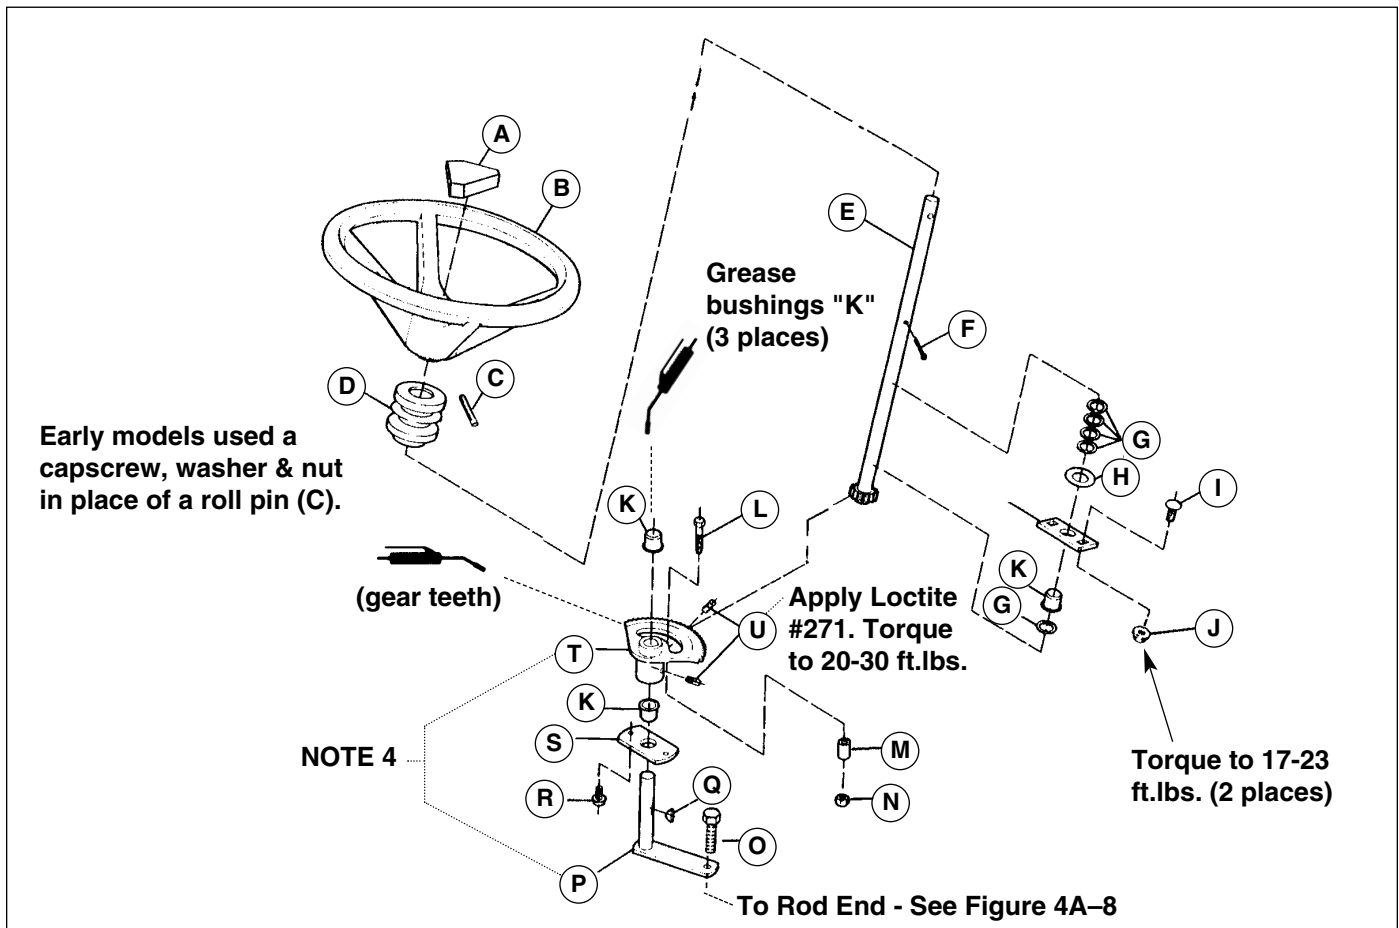

Figure A-18. Upper Steering Assembly
5. The steering arm assembly may be disassembled by removing the two square head bolts (U, Figure A-18) from the gear assembly.